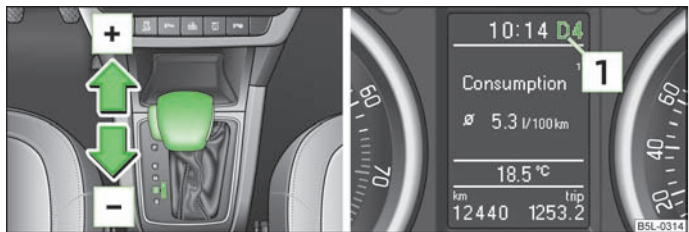

Fig. 107 Selector lever/information display: Selector lever positions
► Push the selector lever to the right out of position **D**. The selector lever position you have engaged is indicated in the information display of the instrument cluster together with the engaged gear **1** » Fig. 107 on the right.
► Press the selector lever forwards » Fig. 107 .
► Press the selector lever backwards » Fig. 107 .